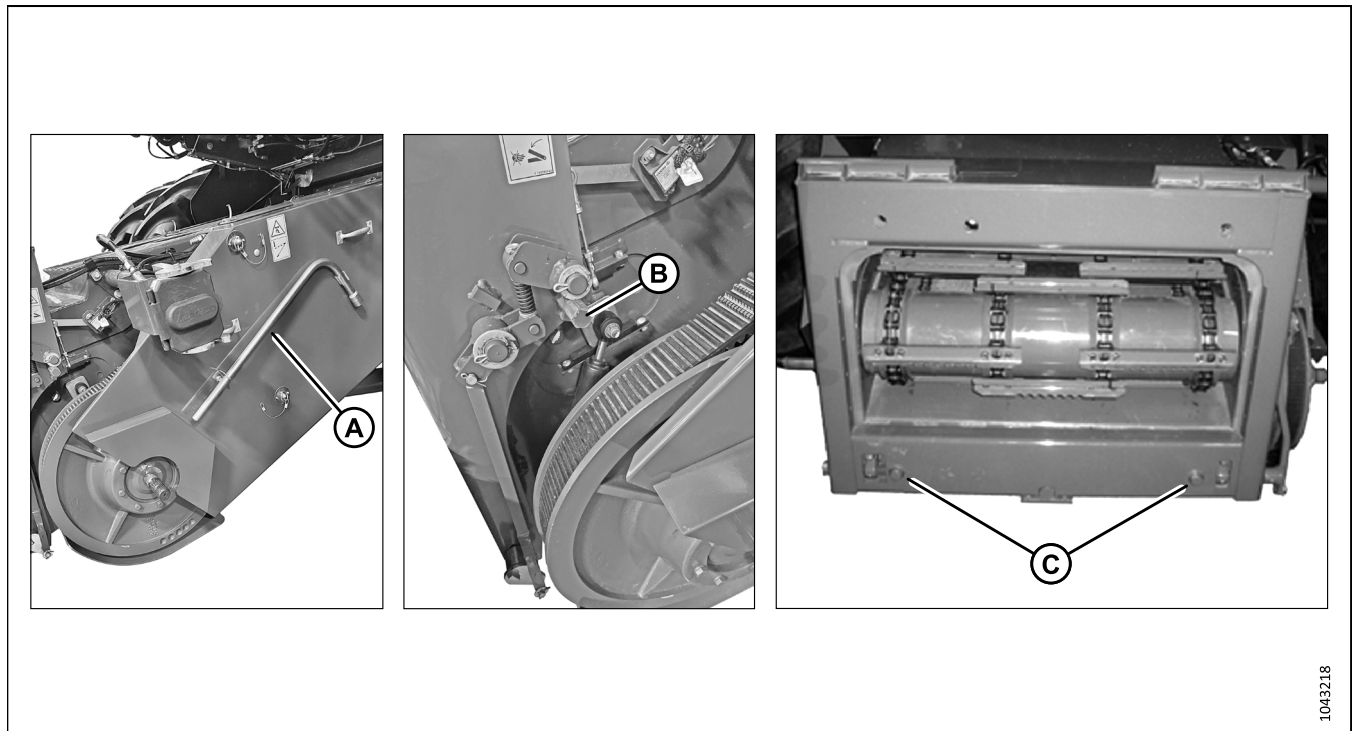

Figure 4.14: Feeder House
Ensure that alignment pins (C) (refer to Figure 4.14, page 55) on the feeder house align with holes (B) in the float module frame.